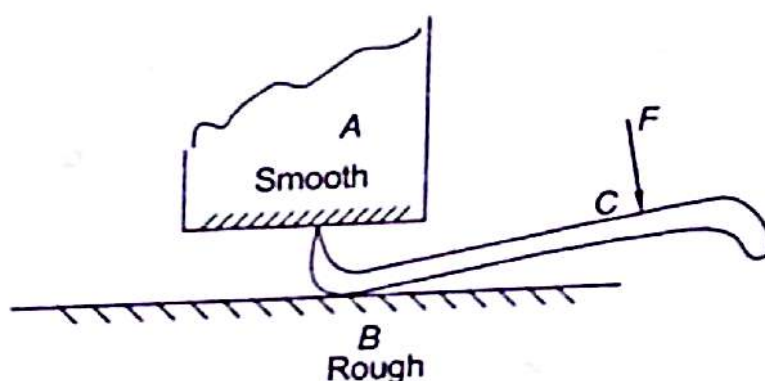

Fig. 3.54
- 3.1 A pry bar is lifting a body A having a smooth horizontal surface. Bar rests on a horizontal rough surface. Draw free body diagram of pry bar (Fig. 3.54).